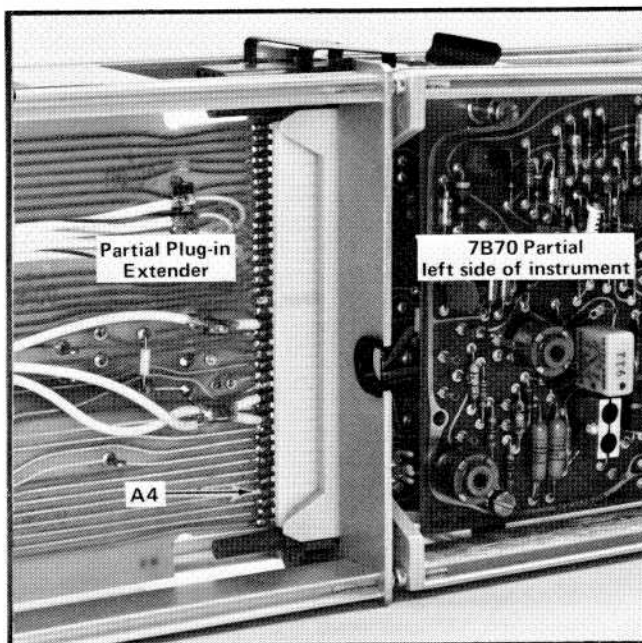

Fig. 5-5. Location of interface connector A4.
- b. Connect a probe from the 7A16 Input to interface connector A4 (plug-in connector at the rear of the 7B70). See Fig. 5-5.